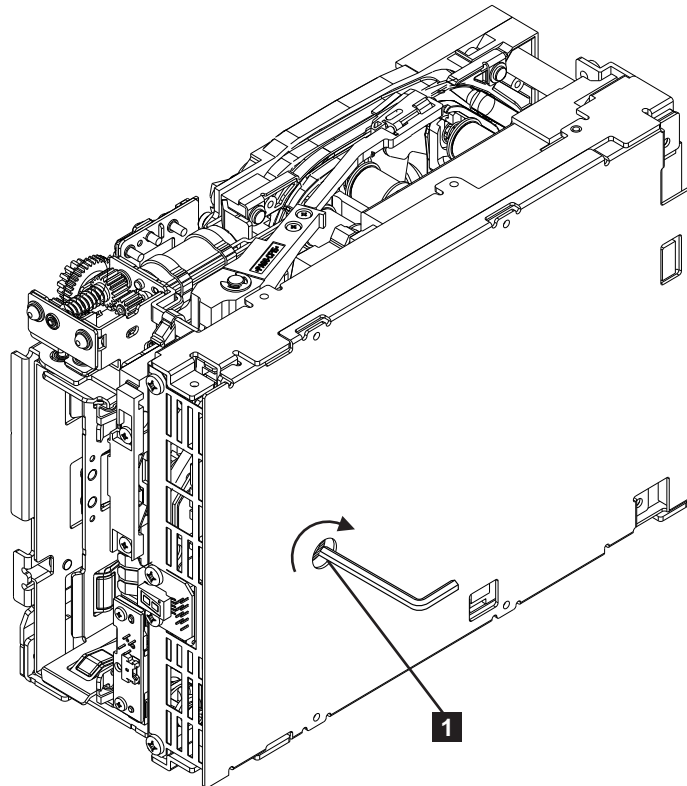

Figure A-5. Using hex wrench to rewind tape into cartridge
6. From the bottom of the drive, locate the access hole ( **1** in Figure A-5) in the bottom cover. Insert a 2.5 mm offset hex wrench through the bottom cover access hole and into the reel motor axle. begin spooling tape back into the cartridge by turning the hex wrench clockwise.